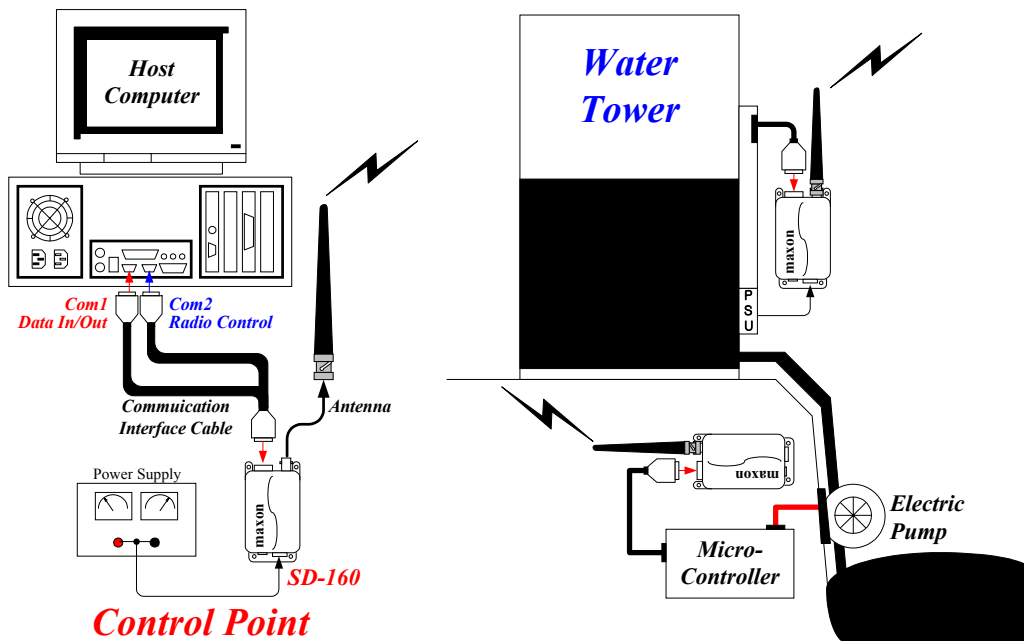

Figure 4.3. Irrigation equipment control Application
- Multiple remote sites to control irrigation system (see Figure 4.3.)